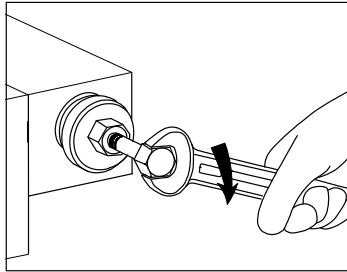

Fig. 5-6
3. Insert a screw with M8 thread into the center tapped hole (Fig. 5-6).